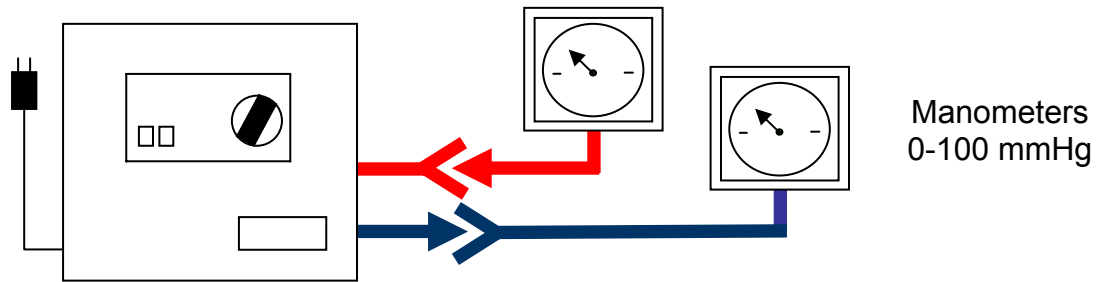

FIGURE 3
- 8.2.1 Connect the control unit as shown in FIGURE 3.
2. Open the control unit by removing the six (6) screws located on the back of the unit.
3. Connect gages to control unit as shown in FIGURE 3 (Page 6).